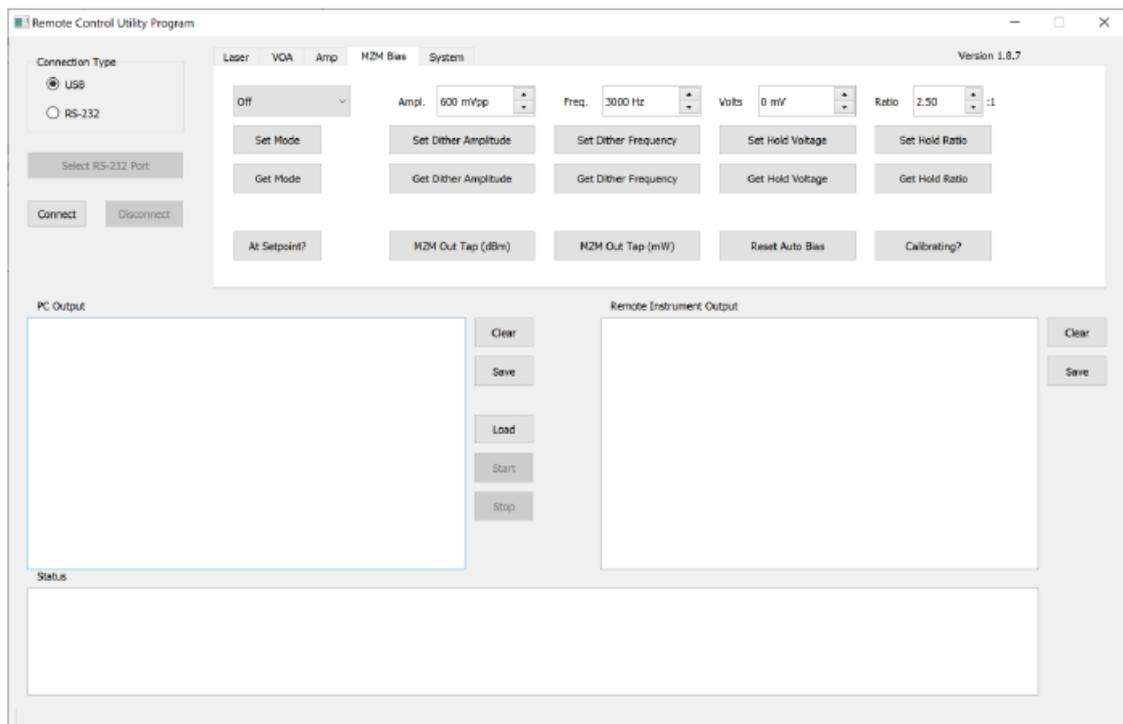

Figure 12 MZM Bias Tab
- The functions in the MZM Bias tab (Figure 12) correspond to the commands described in Section 2.4: Mach-Zehnder EO Intensity Modulator Commands.